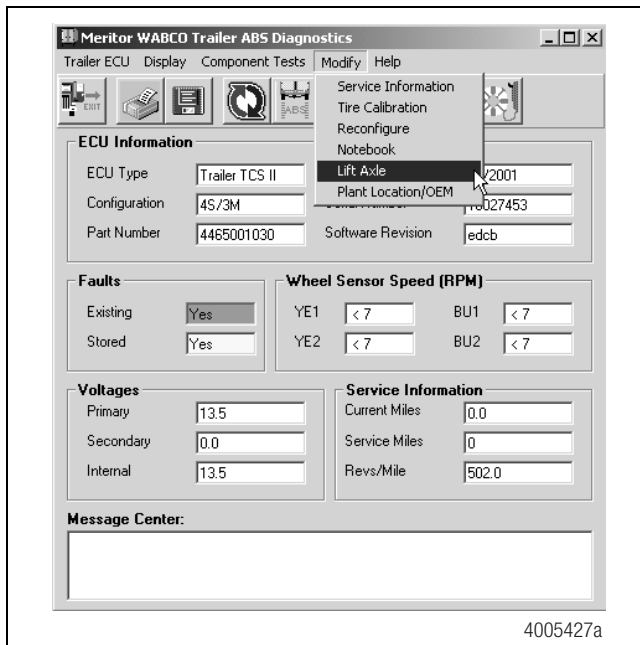

Figure A-1
1. Display the **Trailer ABS Main Screen**. Click on **Modify** to display the pull down menu. Figure A-1.